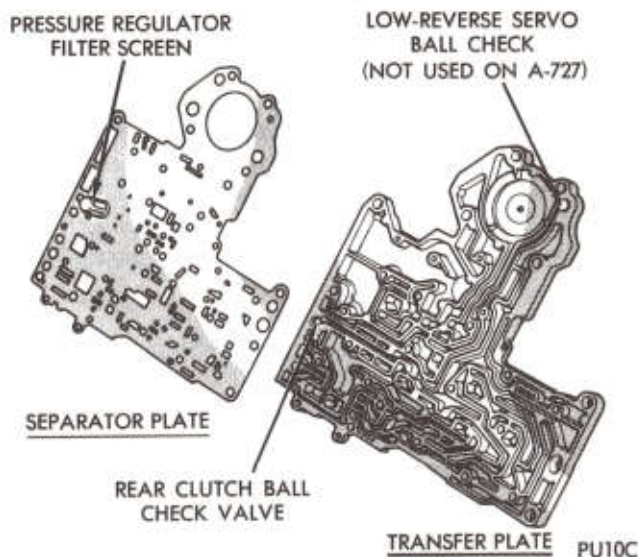

Fig. 4—Transfer Plate and Separator Plate
(3) Hold spring retainer firmly against spring force while removing last retaining screw from side of valve body.
(4) Remove spring retainer, with line and throttle pressure adjusting screws (do not disturb setting) and the line pressure and switch valve regulator springs.
(5) Slide switch valve and regulator valve out of their bores.
(6) Remove screws from lockup module (or stiffener plate) and carefully remove tube and lockup module (or stiffener plate). Disassemble lockup module, tagging springs. Nonlockup A-904T, for California models, use an empty lockup body instead of a stiffener plate.
(7) Remove transfer plate retaining screws and lift off transfer plate and separator plate assembly.
(8) Remove lockup solenoid retaining screw and pull solenoid from its bore in transfer plate, if so equipped.
(9) Remove three screws from separator plate and separate parts for cleaning (Fig. 4).
(10) Remove rear clutch ball check, reverse servo ball check, and line pressure regulator valve screen
from separator plate for cleaning (Fig. 4).